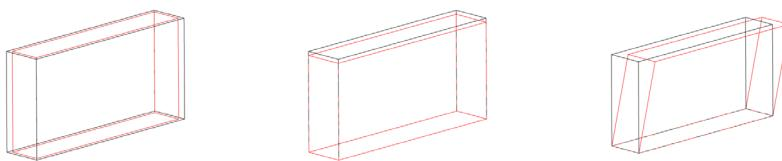

Figure 1: Types of manufacturing variability implemented in this example: Over-etch (left), Thickness (middle), and Sidewall (right).
In this tutorial, manufacturing variations are added to the entire device layer which simulate the effect of an over-etch causing critical dimension (CD) variation, device layer thickness variations and a sidewall tilt parameterized by the steepest angle to the vertical (theta) and an in-plane angle (phi). See Figure 1 for the three types of variations. In this model, the variations are spatially uniform for simplicity. However, it is straightforward to make these variations a function of space within the device, which can also lead to systematic variations in the operation of the gyroscope, and to combine the variations arbitrarily. To implement a space-wise variation, the variable definitions can be modified so that they are a function of the model coordinates (an imported interpolation function can also be used). It is also straightforward to extend these variations to the anchor layer, although that is not done here for simplicity.